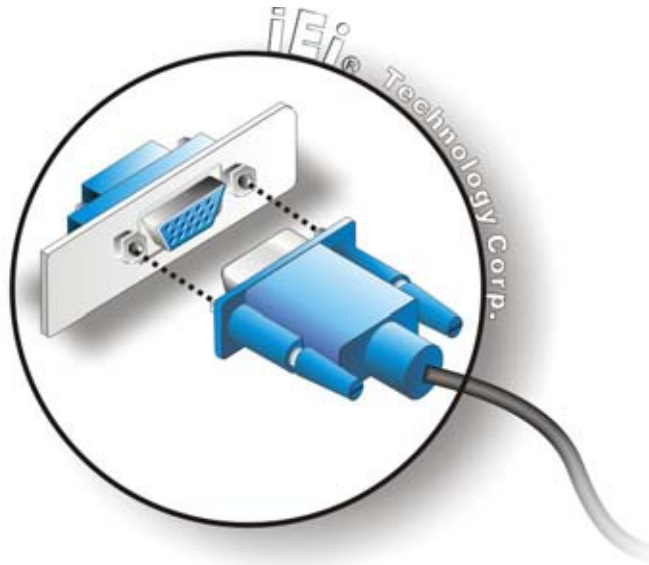

Figure 5-16: VGA Connector
Step 5: Insert the VGA connector. Once the connectors are properly aligned with the insert the male connector from the VGA screen into the female connector on the eKINO-945GSE. See **Figure 5-16**.